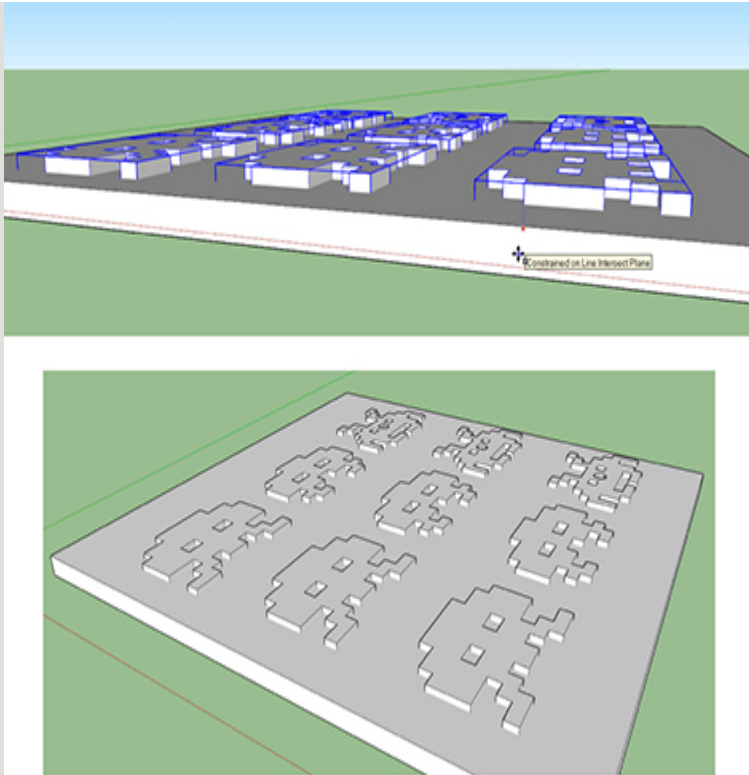

Figure 4-44 Move the models partway into the base.
3. Move the models part way into the base (Figure 4-44). Not all the way, just part way. The amount they're pushed inside the base determines the mold's depth. Pushing the models almost all the way down will make deep molds, and pushing them in just a little will make shallow molds. Press and hold the UP ARROW key to inference lock them along the blue axis, which makes moving them straight down easier. If they won't move down at all, right-click on them and choose Unglue.